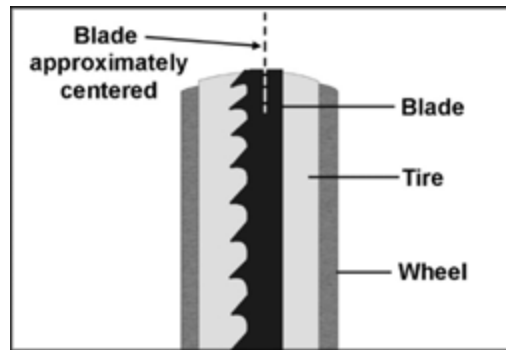

Figure 26: blade track
5. Open upper door to expose upper wheel. Rotate upper wheel by hand and observe position of blade on the wheel through the tracking window. The blade should ride upon center of wheel (Figure 26).